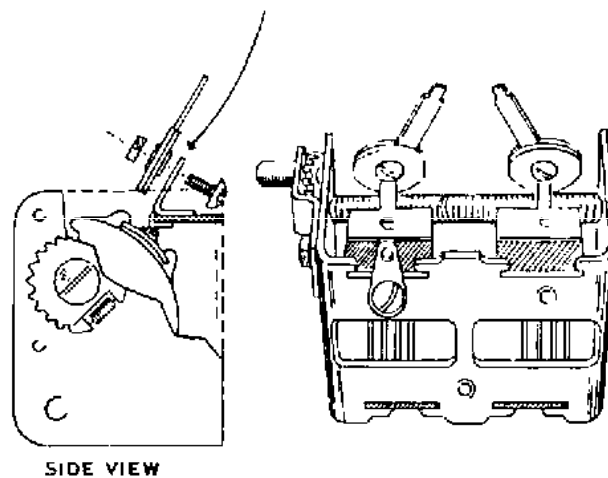

Fig. 4
- ( ) Bend the remaining two stator lugs as shown in Figure 4, side view.